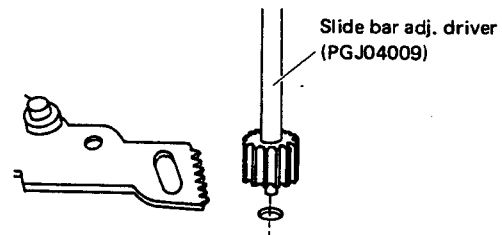
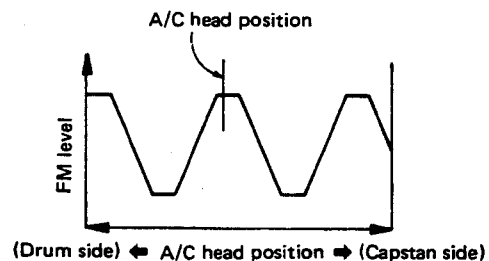

Fig. 2-54
Fig. 2-55
6. Tighten screws (D), (E) and (F) lightly and play the stair-step signal of the MH-2 alignment tape.
7. Set the slide bar adj. driver (PGJ04009) as shown in Fig. 2-54. Slowly turn the tool to where the 2nd maximum peak of the FM waveform is obtained (Fig. 2-55).
8. Tighten screws (D), (E) and (F) securely. Use care not to disturb the A/C head position.